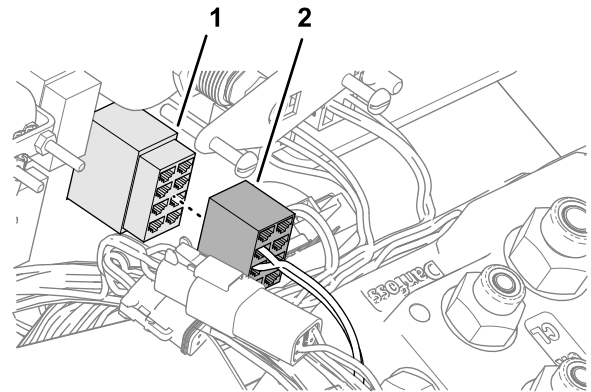

Figure 47
6. Plug the 8-pin connector of the kit wire harness labeled ROAD SWITCH (Figure 47) into the 2-position switch that you installed in Assembling the Road Switch to the Dash \(page 18\).